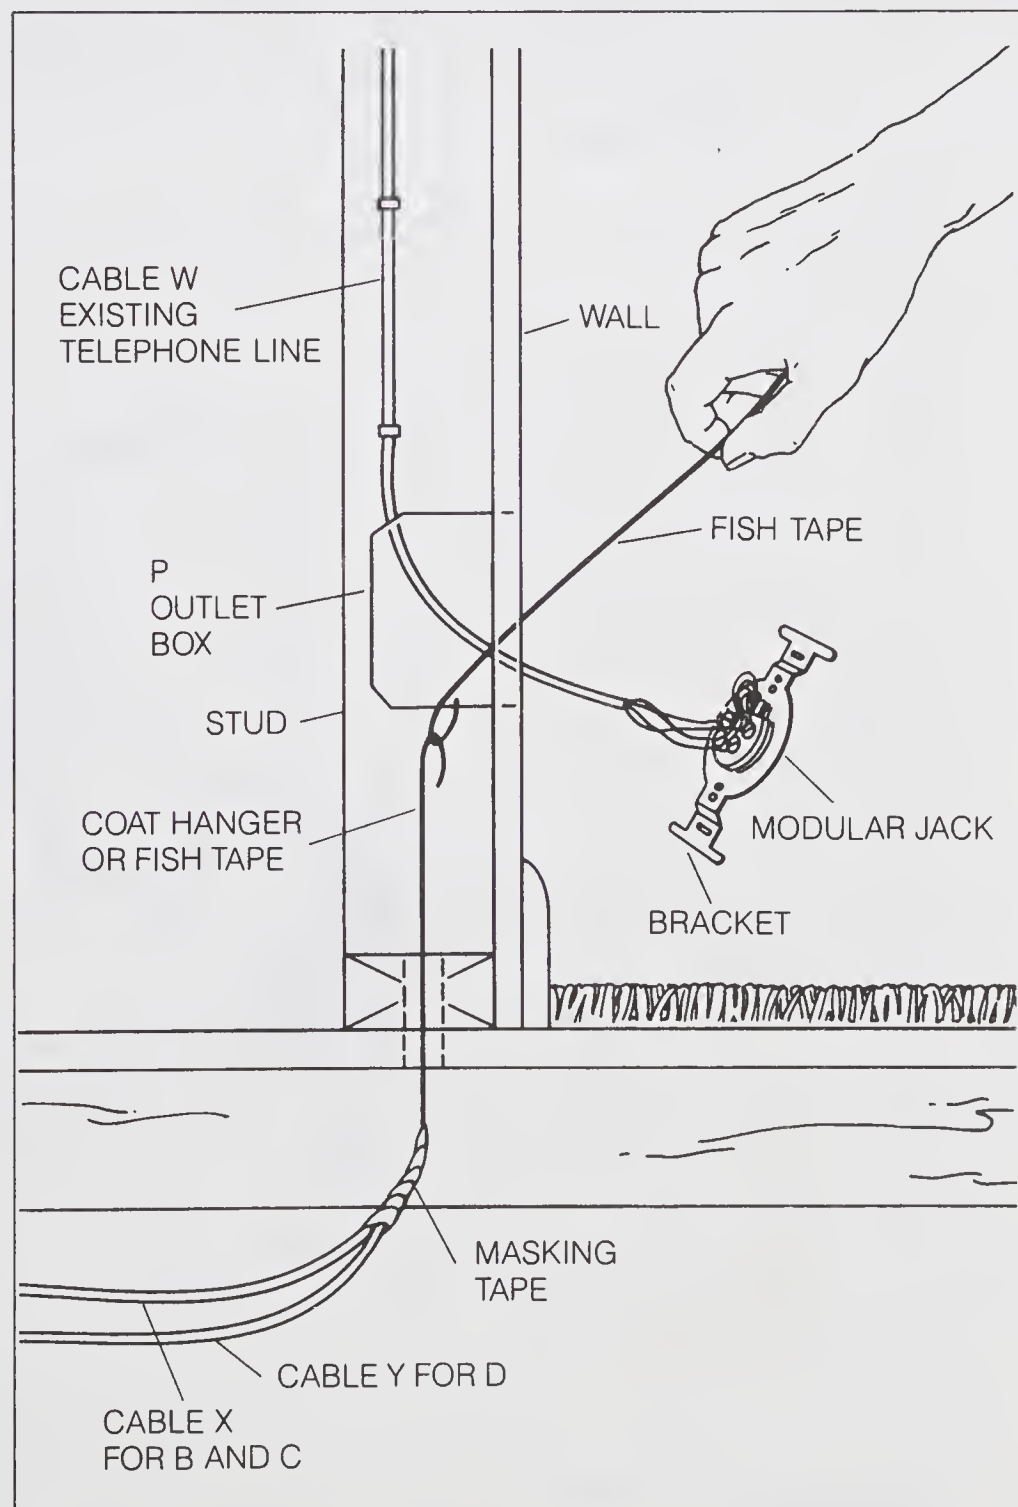

Figure 6-7.
7. Remove the faceplate and bracket holding the modular outlet from outlet P. Pull the bracket out of the outlet box so that terminals connecting the cable wires are accessible (See *Figure 6-7*).
8. Open a knockout in the bottom of the outlet P box for the cables X and Y coming from underneath. Insert a fish tape as shown in *Figure 6-7*. Have a partner put a hook in the end of a coat hanger and insert it up through the hole in the bottom plate below outlet P. Hook the coat hanger with the fish tape from outlet P and pull on the fish tape.